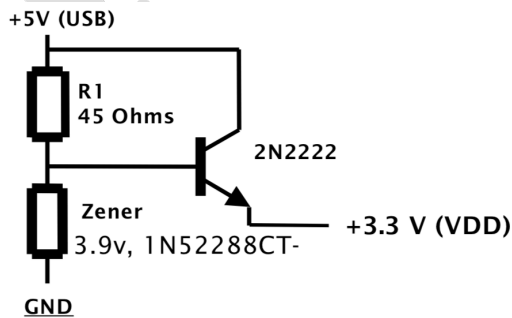

Figure 5. Sample VDD Generator
12. VDD can be derived from the USB supply. See Figure 5 on page 21.